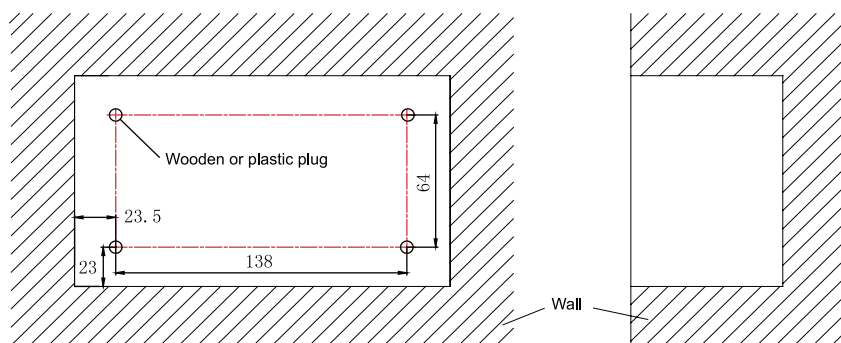

Figure 3-9 Diagram of Wooden or Plastic Plug
- 1) In case that the centralized controller is installed on wall, dig a hole that is the size of 180mm×107mm×62mm and peg 4 wooden or plastic plugs on the wall according to fig.3-9.